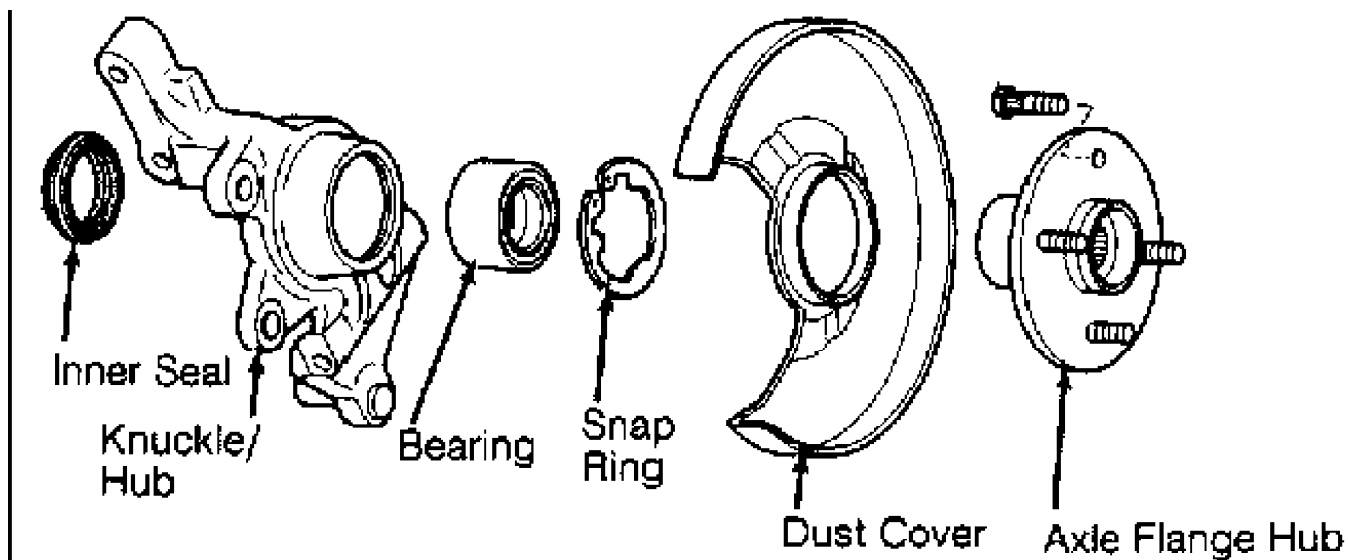

Fig. 7: Exploded View of Rear Hub Assembly (Protege 4WD)
4) Remove snap ring retaining bearing and press bearing from knuckle/hub. See Fig. 7. DO NOT reuse wheel bearing. Inspect all components for cracks, wear or damage. Replace as required. Dust cover cannot be reinstalled if removed. If replacing dust cover, mark location on hub and original dust cover for new dust cover installation reference.